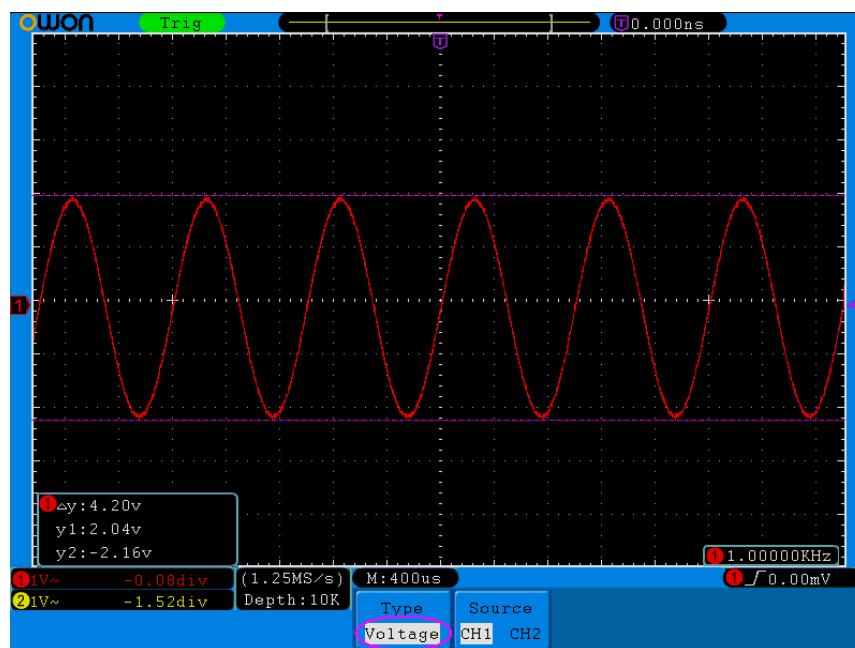

Figure 5-63 Waveform of Voltage Cursor Measurement
4. According to the measured waveform, adjust the positions of Cursor1 and Cursor2 by turning the **VERTICAL POSITION** knob of CH1 and CH2. Cursor increment window at the left bottom of waveform shows absolute value of D-value of cursor 1 and cursor 2 and the present position of the two cursors. (See Figure 5-63).